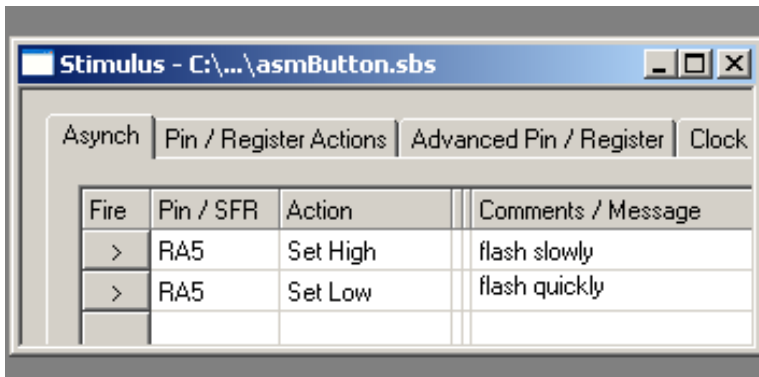

Fig 9.3
- c. Add RA5 and comments for each, resizing window as shown below in Fig 9.3: